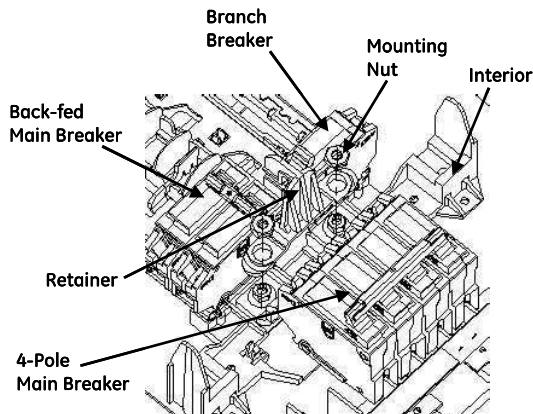

Figure 1: Main Breaker Retainer
2. Install the 2-pole back-fed main breaker in the position shown in Figure 1.
5. Install the retainer and secure using the nuts provided in the kit (see Figure 1). Tighten to 35 lbs-in (4 N-m).